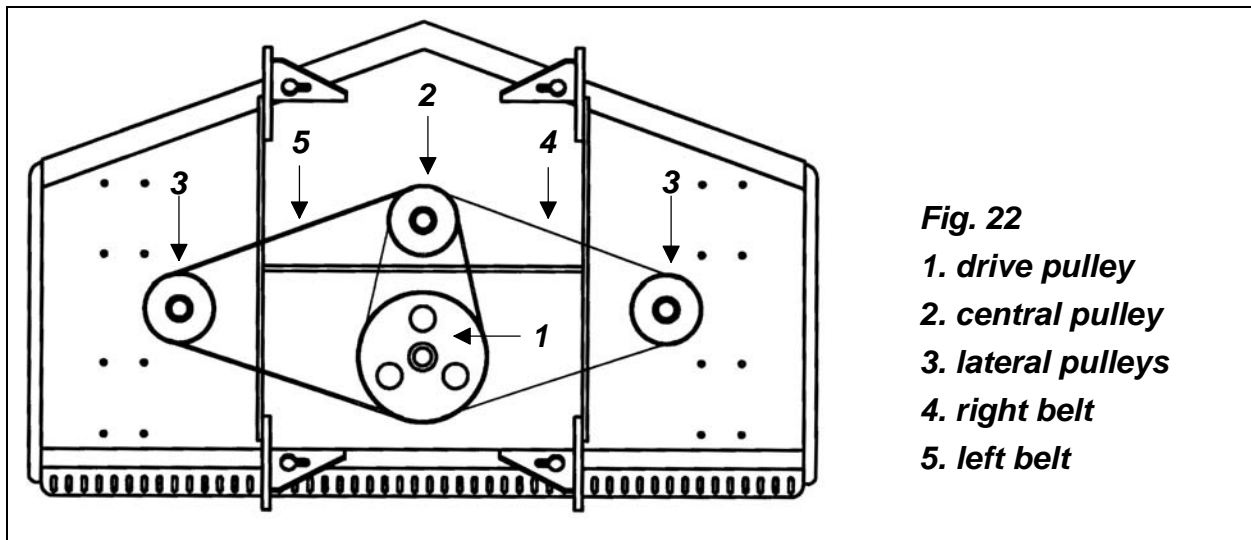

Fig. 22
8. Replace new belts (**see fig. 22**). Loop the first belt over the left spindle and around the lower groove of the center spindle pulley and the lower groove of the gearbox drive pulley. The second belt connects the upper grooves of the center spindle pulley and the gearbox drive pulley with the right spindle pulley.